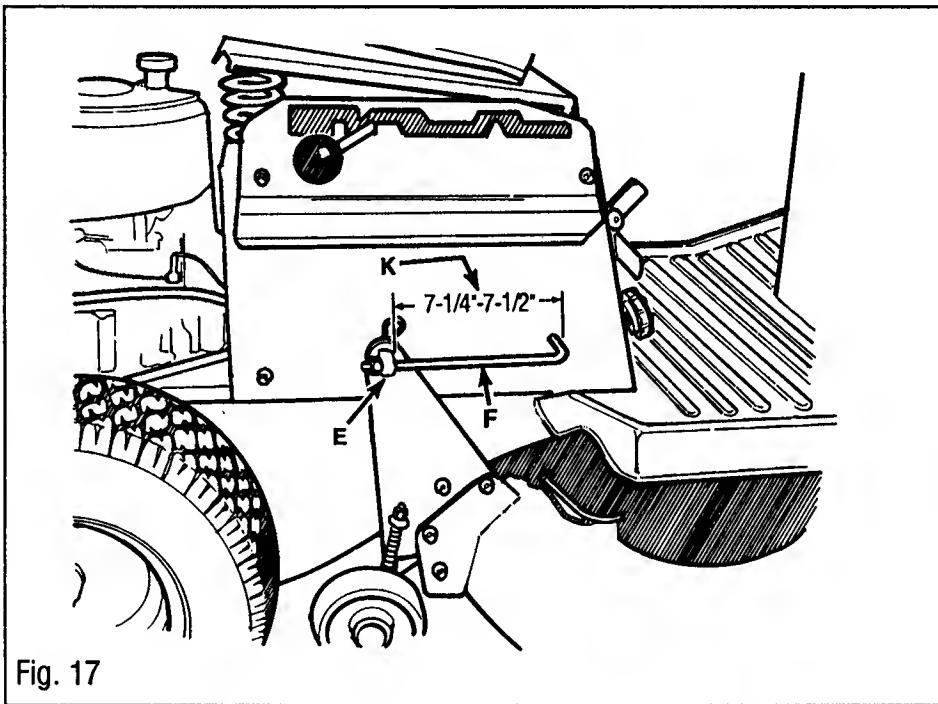
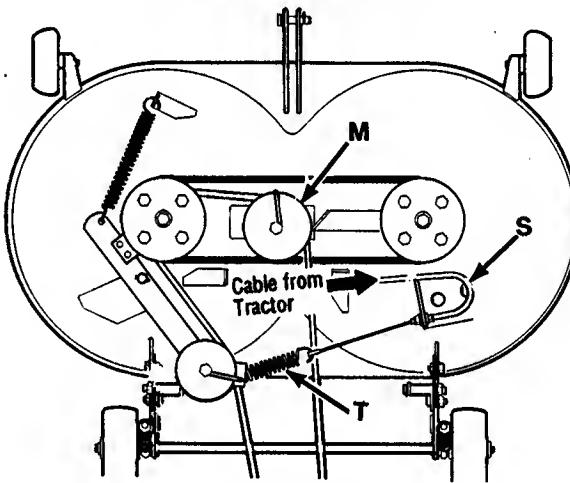
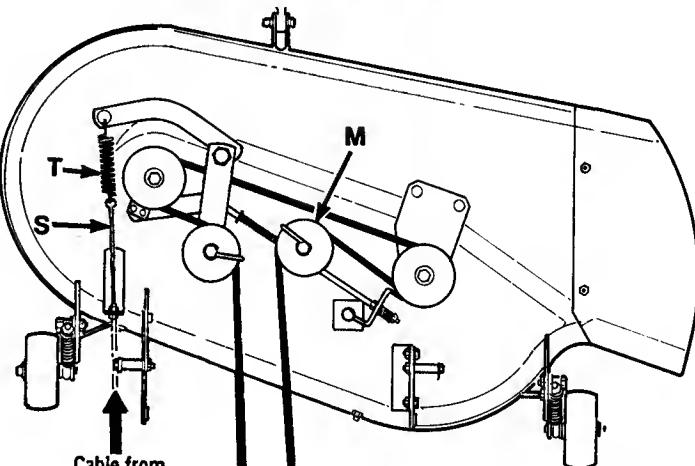

Fig. 17
Fig. 19
Fig. 21
Check distance (K, Fig. 17), between center of pivot block and center of pivot. Normal distance should be 7-1/2" (7-1/4" for 36" Decks). **NOTE: AFTER THE MOWER HAS BEEN USED FOR A WHILE, THE MOWER DRIVE BELT CAN STRETCH AND BEGIN**
Belt tension is controlled by position of idler (M, Figs. 19 & 21) and pivot rods (F, Fig. 17). Distance (K, Fig. 17) should be 7-1/2' for 33" decks 7-1/4" for 36" decks. Adjust position of idler (M, Figs. 19 & 21) by moving it along the slot. If further adjustment is necessary, adjust distance (K, Fig. 17) by rotating pivot (E) to the rear. Re-adjust front center link to level mower. **NOTE: AFTER THE MOWER HAS**
With mower lift lever (See page 18, Item I) in the disengaged position, adjust cable (S, Figs. 19 & 21) at nuts (R, Fig. 21) so there is a slight slack in cable. **WHEN ADJUSTED, SPRING (T) SHOULD NOT BE UNDER TENSION.**